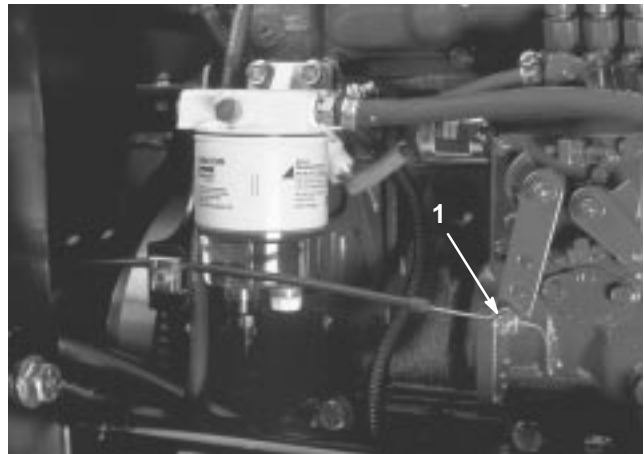

Figure 51
2. Loosen the throttle cable connector on the injection pump lever arm (Fig. 51).